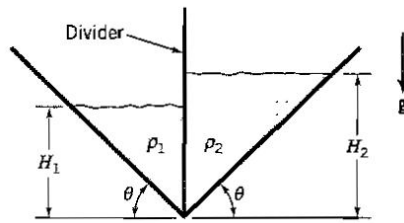

Figure P2.40
2.40 A triangular trough contains two fluids, with densities ρ_1 and ρ_2 , and depths H_1 and H_2 , respectively, as shown in Figure P2.40. Find the resultant hydrostatic force acting on the divider, and where it acts.